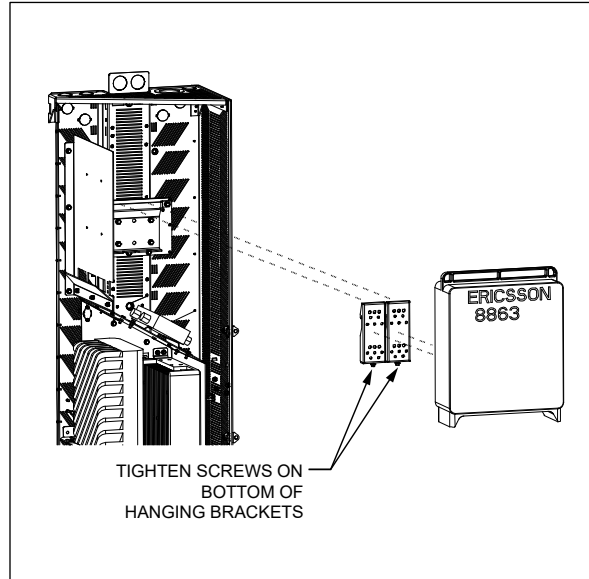

Figure 22 Install 8863 Radio
7. Hang the hanging brackets from the mounting plate. Secure the brackets in place by tightening the 10-32 screws on the bottom of each hanging bracket (Figure 22).